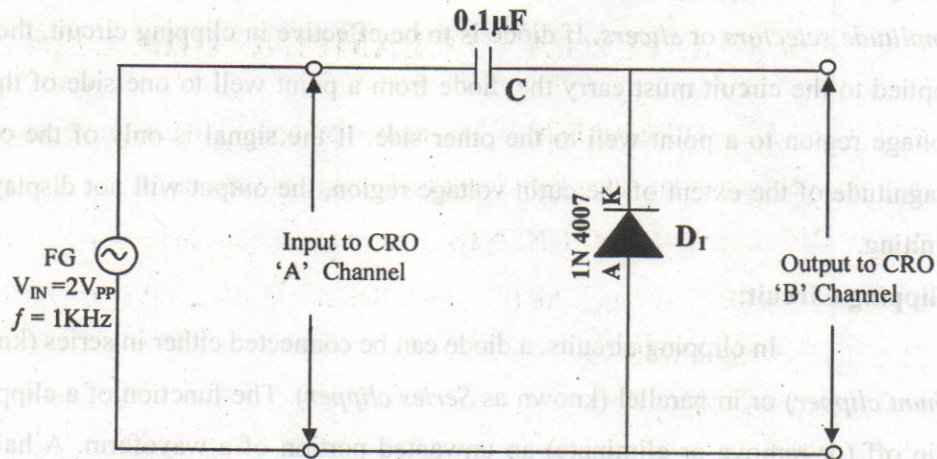
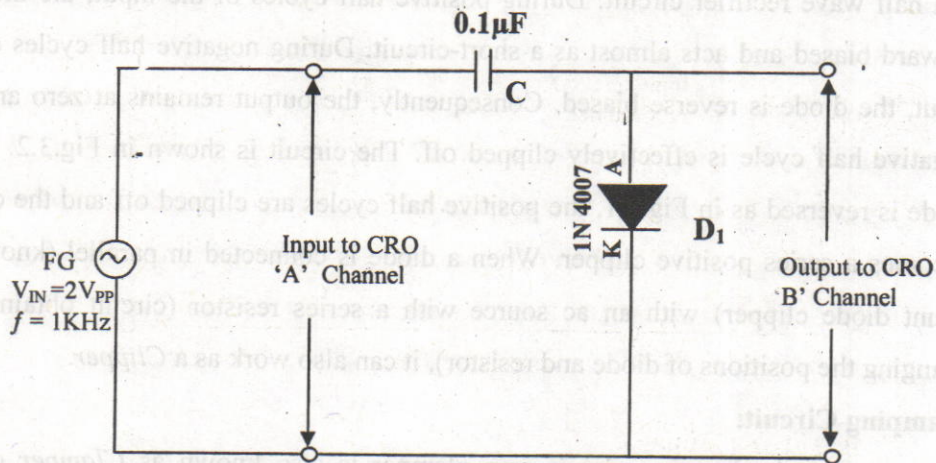

Fig.3.3
Fig.3.4
A clamping circuit or a clamper is also known as *Clamper* or *DC restorer*, changes the DC voltage level of a waveform but does not affect its shape. In Fig.3.4, when the AC input is positive, diode D_1 is forward biased and the output voltage equals the forward voltage drop V_F . During the positive half cycle of the input, the voltage on the right side of the capacitor is $+V_F$, while that on the left side is $+E$. Thus C_1 is charged with the polarity shown to a voltage $V_{C1} = E - V_F$. When the input goes negative, the diode is reverse biased, and has no further effect on the capacitor voltage. While the input is negative, the output voltage is the sum of the input and capacitor voltages. Since the polarity of the capacitor voltage is the same as the input, the output is
8. Now assemble the other circuits as shown in Fig.3.3 and Fig.3.4 to study the operation of **Positive and Negative Clampers**.